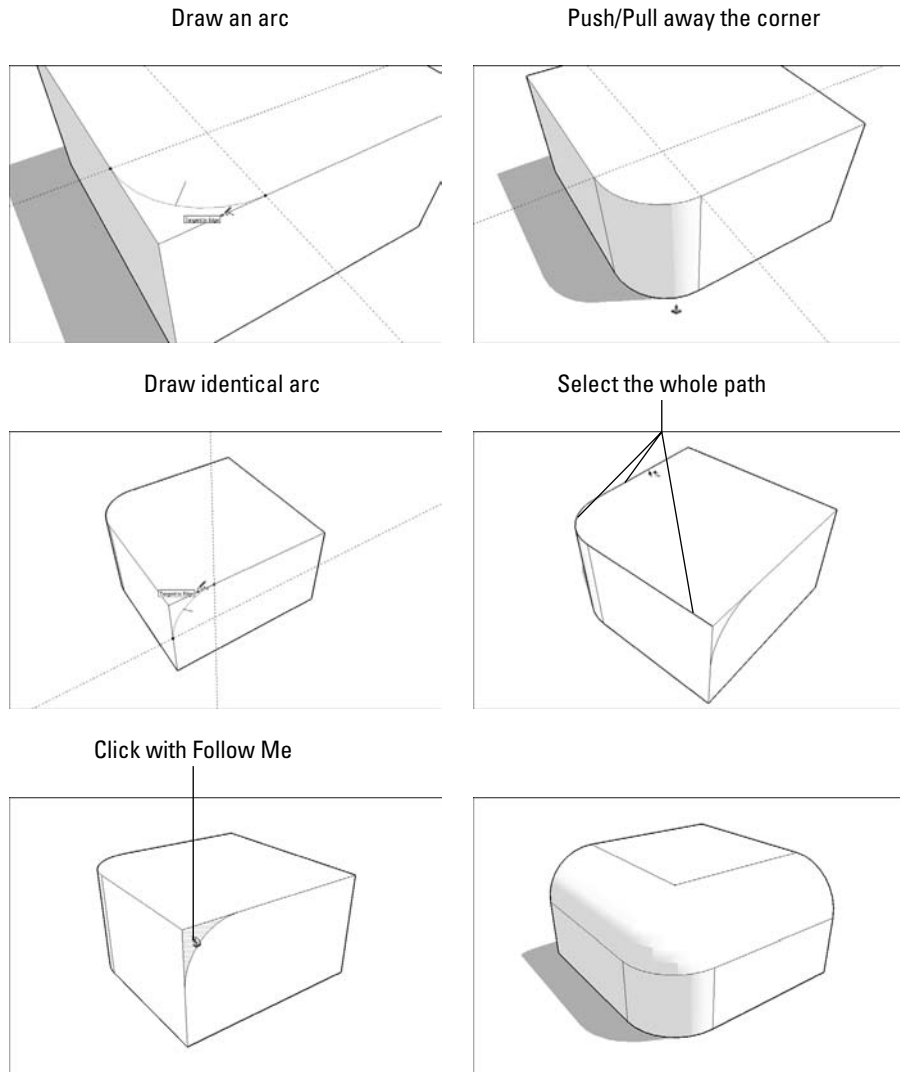

Figure 6-14:
Figure 6-14 gives a step-by-step, visual account of the process, while I explain it in words, as follows:
This is where you'll have to refer to Figure 6-14. Pictures are better than words when it comes to explaining things like which corners are adjacent to which.
5. **Select the edges shown in Figure 6-14.**